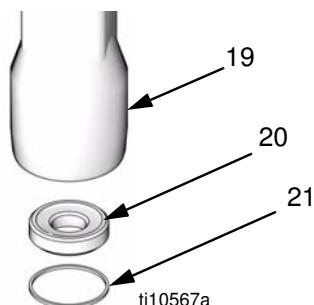

FIG. 10
11. Use an o-ring pick to remove seal (21) from intake valve housing (19). Discard seal; use a new one for reassembly. See FIG. 10.
12. Pull intake seat (20) out bottom of intake valve housing (19). Take care not to drop intake valve assembly (N) as it comes free, and set it aside for later.